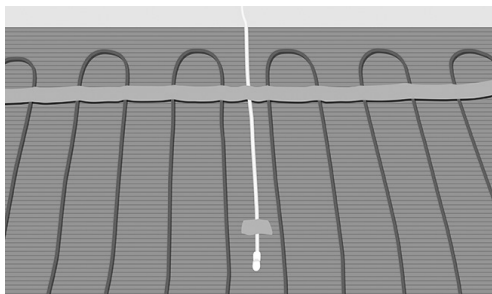

Fig. 13. Place the pipe/sensor between two cables
11. Install a conduit pipe for the floor sensor. Make sure the end of the conduit pipe is located at the same level as the heating cable and between two loops, approx. 50 cm from the wall. Seal the end of the conduit pipe. (Fig. 13).